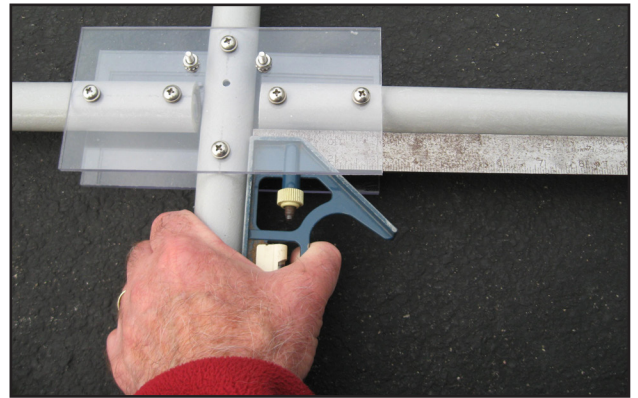

Fig. 60
- Repeat the previous two (2) steps to position and fasten the other Element Assembly. See Fig. 60.